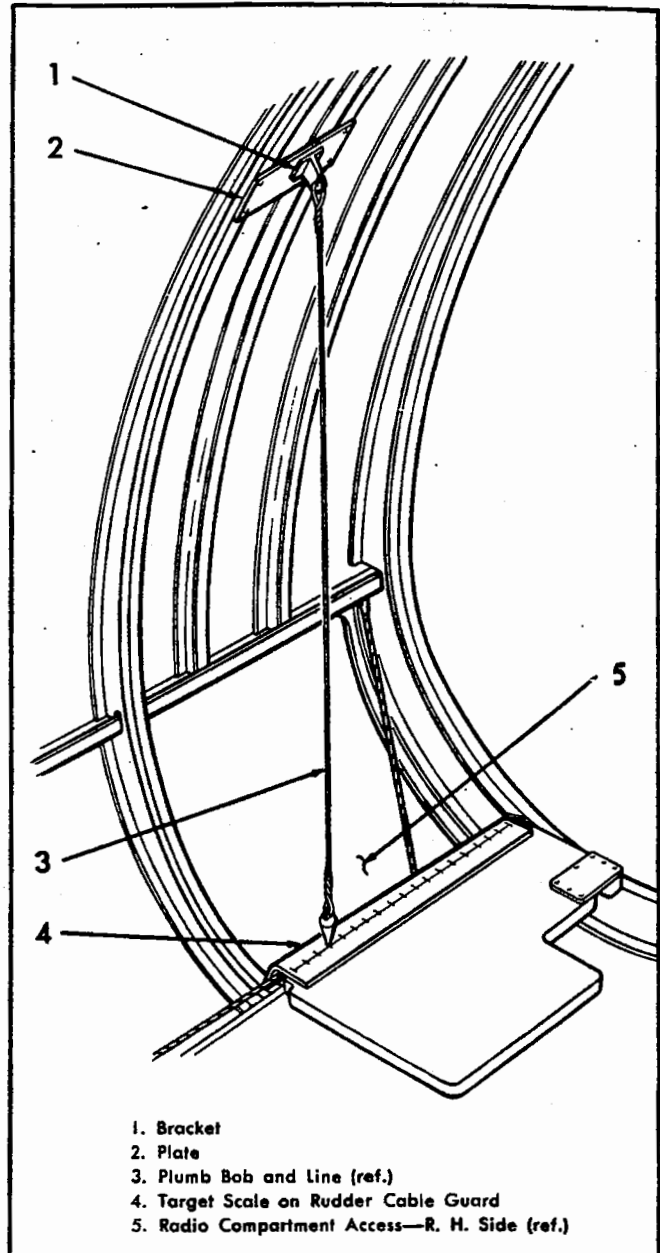

Figure 3-8. Leveling Arrangement.
3-29. DESCRIPTION. (See figure 3-8.) A target scale (4) on the rudder cable guard and a plate (2) and bracket (1) have been installed in the mid-section to provide for lateral and longitudinal leveling of the airplane. The plate with the bracket, is riveted to frames on the right hand side of the airplane at stations 199-1/2 and 205-1/2. A decalcomania on the plate indicates its usage as the plumb bob level suspension fitting. Since the plate and bracket has been jiggged at the factory, it must not be disturbed. The target scale is located directly beneath the plate on the rudder cable guard, between stations 200 and 217 on the right hand side of the radio compartment floor. As is indicated on the target scale, the datum line is used for lateral leveling and the cross lines, marked off in degrees and minutes, are used for longitudinal leveling and for gun boresighting. Access to the fitting plate and bracket and the guard scale is readily available through the radio compartment access door.